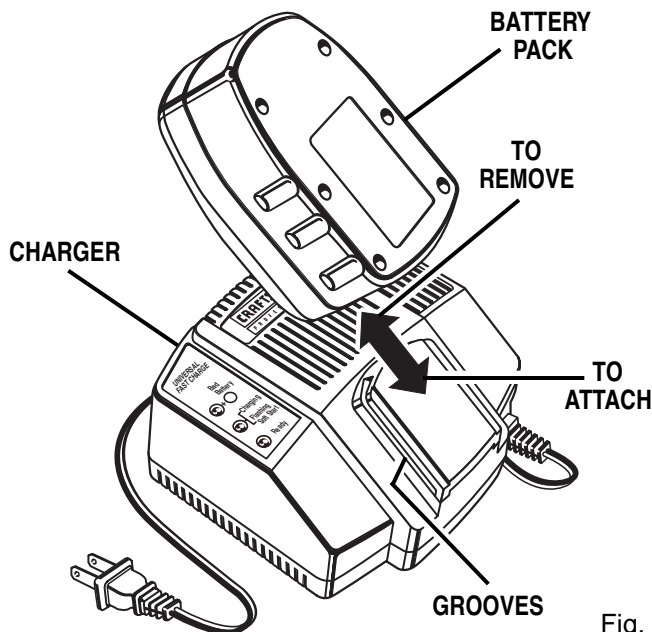

Fig. 9
- Attach battery pack to charger by aligning raised ribs on battery pack with grooves in charger, then slide battery back onto charger. See Figure 9.